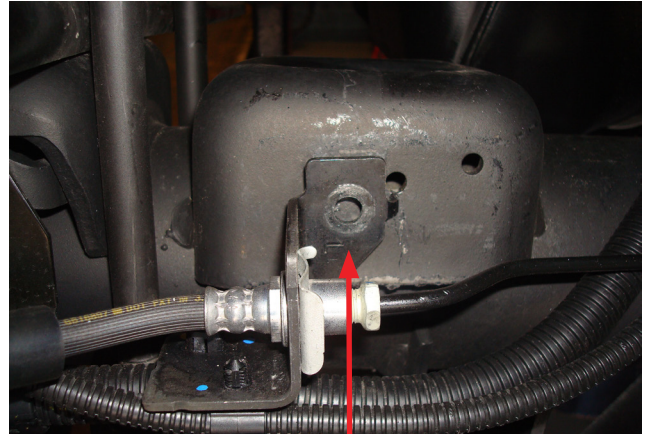

Fig. 6
- Remove the two bolts that hold the brake/ABS line bracket onto the back side of the jounce bumper strike plate (Fig. 5 & Fig. 6). Pull the bracket away from the jounce bumper strike plate to make room for the lower bracket to be installed later.